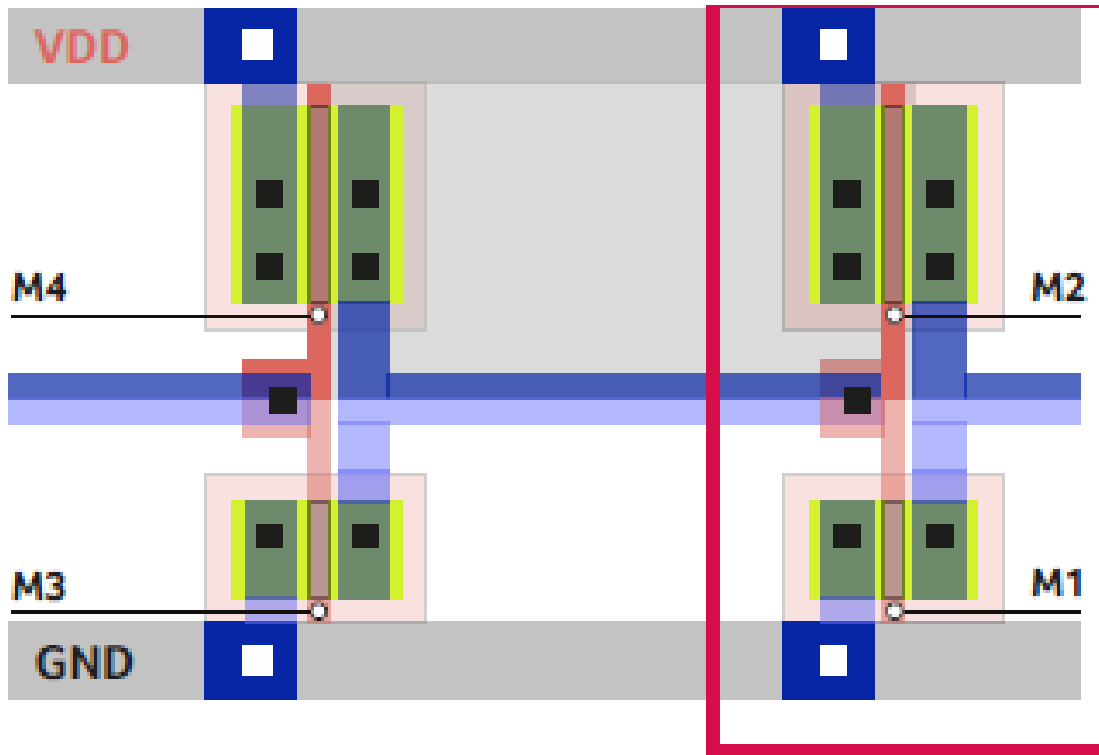

Figure 3. VDD and GND
3. Propagation delay¹ is defined as time difference from 10% of digital glitch to 10% of current monitor T2-T1 (see Figure 3)
4. Propagation delay² is defined as time difference from 10% of digital glitch  to 10% of EM pulse T4-T1 (see Figure 3)
6. Pulse width is defined as time difference from 10% of current monitor amplitude's change at rising edge to 90% at falling edge T3-T2 (see Figure 3)